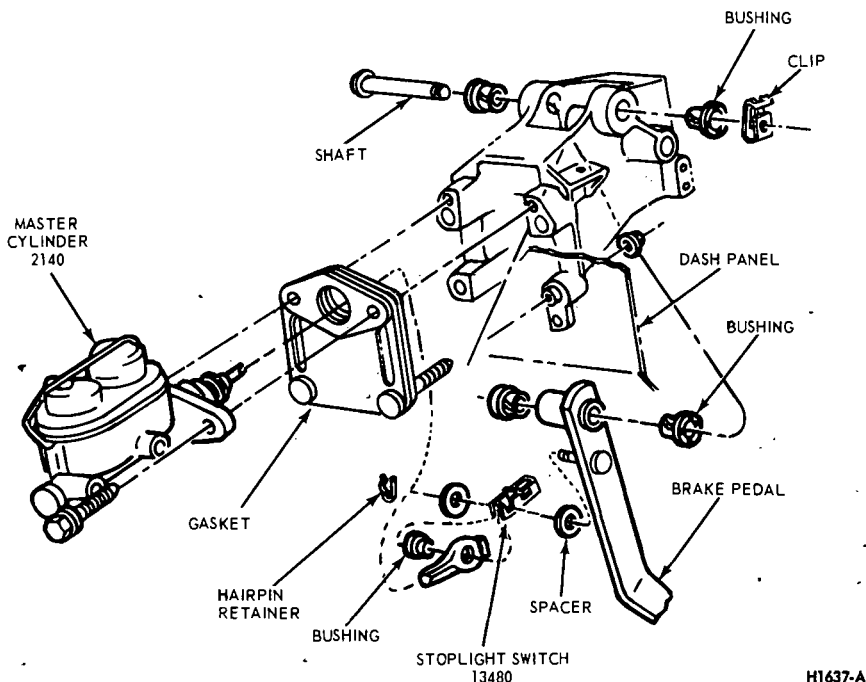

FIG. 10 Master Cylinder Installation—Non Power Brakes—Ford, Mercury, and Meteor
Refer to Fig. 10.
2. Remove the hairpin retainer. Slide the stop light switch off the brake pedal pin just far enough for the switch outer hole to clear the pin, and then lift the switch straight upward from the pin. Be careful not to damage the switch during removal. Slide the master cylinder or booster push rod and the nylon washers and bushing off the brake pedal pin (Figs. 10 and 15).
1. Apply a coating of SAE 10 Engine oil to the bushings and locate bushings in their proper places on the pedal assembly and pedal support bracket (Figs. 10 and 15).
3. Install the inner nylon washer, the master cylinder or booster push rod, and the bushing on the brake pedal pin. Position the switch so that it straddles the push rod with the switch slot on the pedal pin and the switch outer hole just clearing the pin. Slide the switch completely onto the pin, and install the nylon washer as shown in Figs. 10 and 13. Be careful not to bend or deform the switch. Secure these parts to the pin with the hairpin retainer.